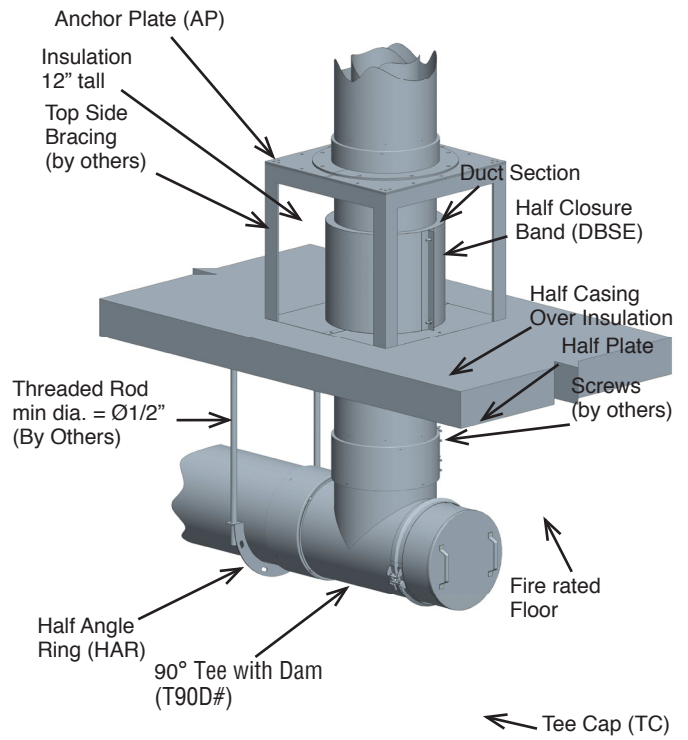

Figure 107: Supports for Duct passing through a fire-rated Floor-Ceiling (DIS3Z only)
Supports for ducts that penetrate fire-resistant floors are to be positioned on the top side of the floor. Includes supports as per the height limits in Table 5 and use either an Anchor Plate (AP) or an Anchor Plate with Length (APL) installed above structural framing members as shown in Figure 107. Where a transition from horizontal to vertical occurs beneath a floor/ceiling assembly, support the horizontal portion beneath the floor using Half Angle Rings (HAR) with a minimum 1/2" dia. threaded rod. Install one HAR on the section adjacent to the Tee and include additional Half Angle Rings (or other, appropriate supports) for the horizontal portion of the system in accordance with Table 7.
**NOTE:-** For Floor Penetration, use one TPFK. See **Figure 109** and **Figure 107**.